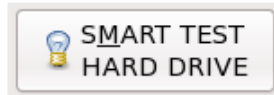

Figure 16: SMART Test button on main GUI
7.5 S.M.A.R.T. Test. For advanced users, a SMART test can be ran on the hard drive by first selecting the hard drive(s) and clicking the SMART TEST HARD DRIVE button (see Figure 16). The main interface GUI will provide progress status and pass or fail status once complete.